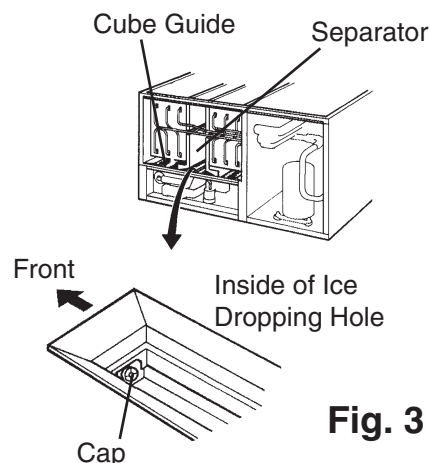

Fig. 3
- 3) Drain the water tank by removing the cap located on the front bottom part of the ice dropping hole. See Fig. 3.